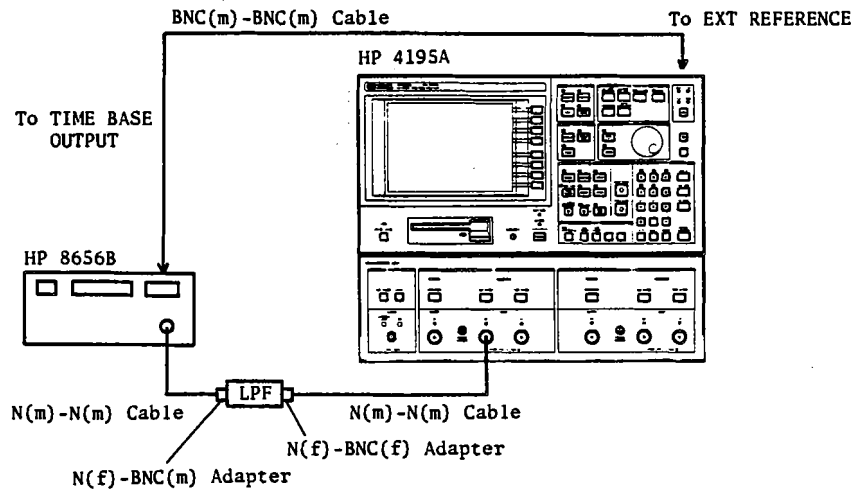

Figure 2-7. Second Harmonic Distortion Test Setup
- Set up the test configuration shown in Figure 2-7. Connect the BNC(m)-BNC(m) cable between the Signal Generator's **TIME BASE OUTPUT** connector and the HP 4195A's **EXT REFERENCE** connector.